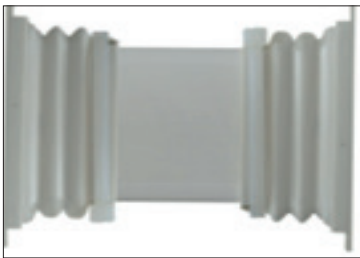

Fig.36
**Tip:** If due to on-site mounting conditions, the spacing between the DP and BD is larger than that given in these installation instructions, then the supplied channel can be lengthened by cutting each half apart in the middle, and then bridging the channel with a length of commercially available 45 x 30 mm cable channel tubing. Use the supplied cable ties (290 mm) to secure the bridging tube. By cutting the tubing to the appropriate length, the bridge can compensate for a wide range of enclosure spacing differences (Fig. 36).